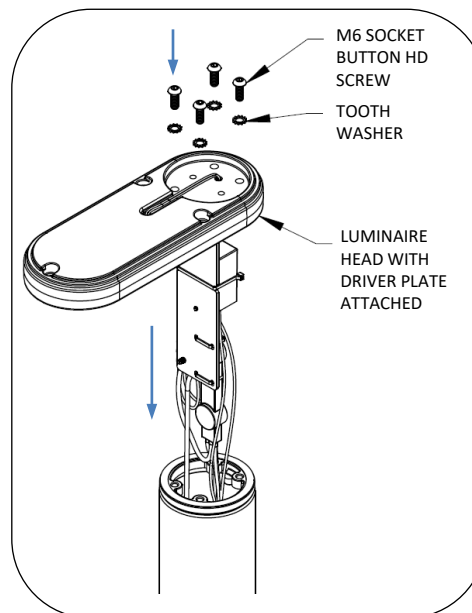

Fig. 7 – Install luminaire and driver plate
5. Make wiring connections (refer to page 3) between driver plate and line-in supply wiring, see Fig. 7.
6. Secure luminaire and driver plate assembly to pole with (4) M6 screws and lock tooth washers, see Fig. 7.